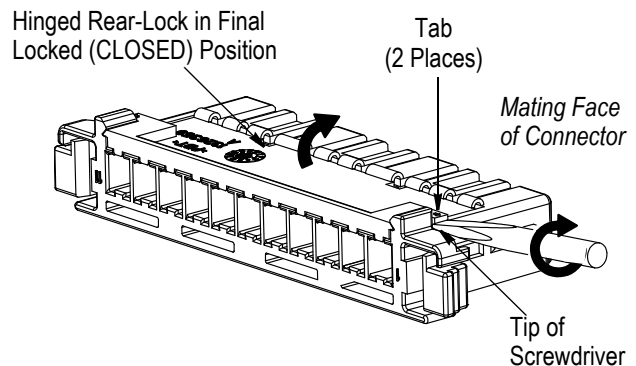

Figure 2
1. Ensure that the hinged rear-lock of the connector is in the pre-lock (OPEN) position as shown in Figure 1. If it is not, refer to Figure 2, and proceed as follows: